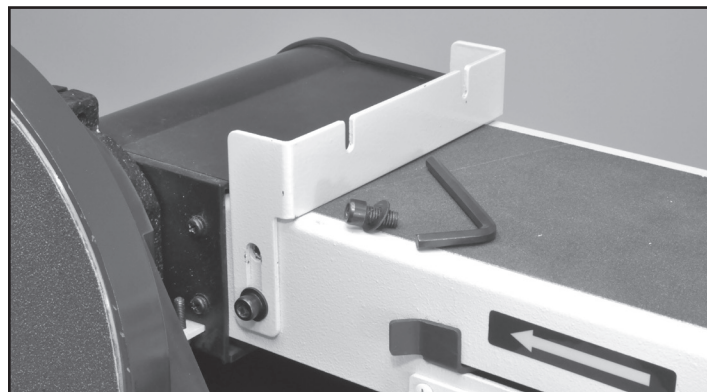

FIG. 2
1. Install the small Fence onto the sanding Belt Frame with the 4 Hex Screws and washers (#27, 58). FIG. 2.